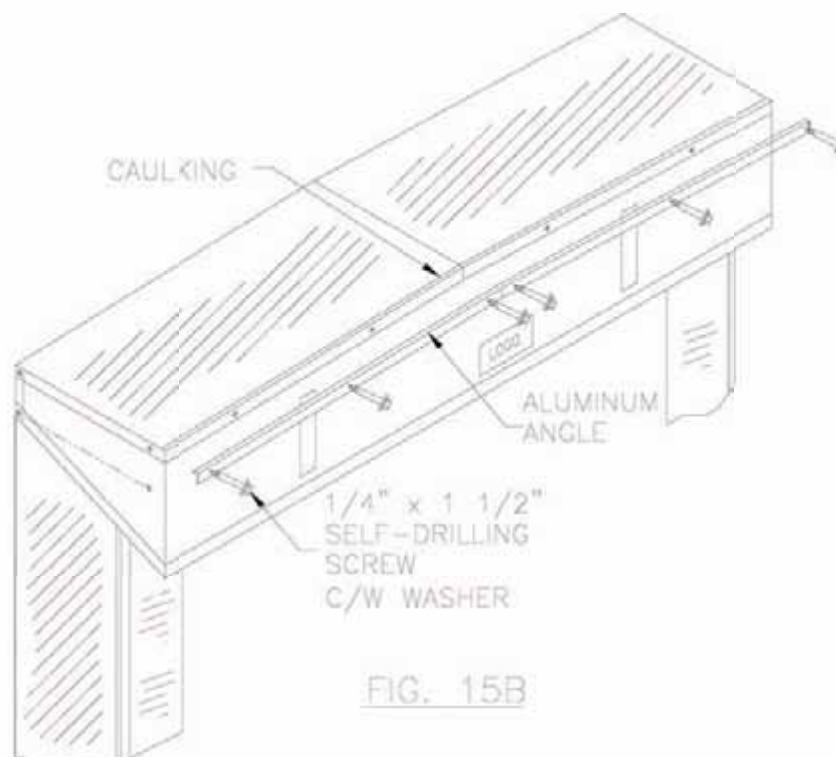

FIG. 15B
b. Reattach Aluminum Angle to front edge of Head Frame (Figure 15b).